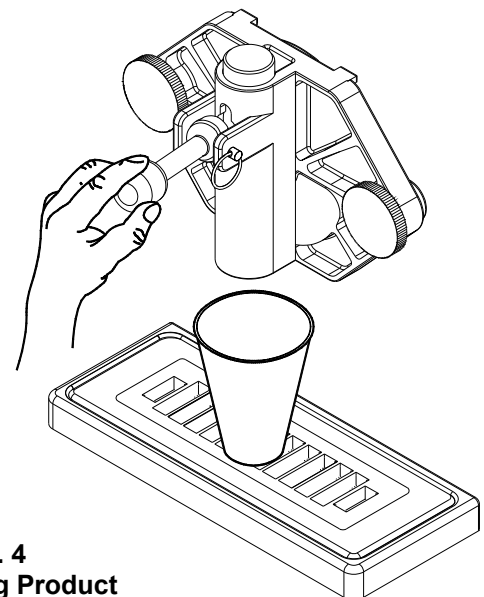

Fig. 4
2. Set the control switch to the “**CLEANOUT**” position and dispense all product from the freezing cylinder by pulling downward on the spigot handle (Fig. 4) to empty the machine.